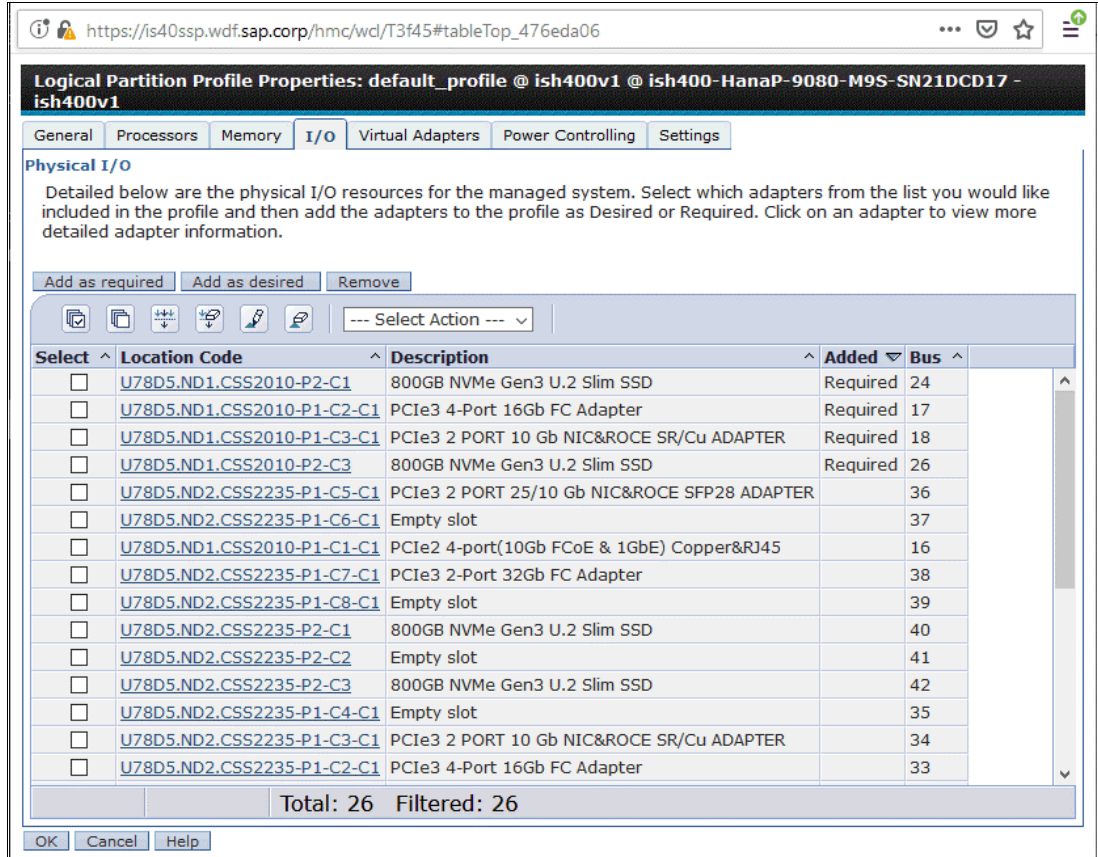

Figure 2-5 LPAR properties on HMC
1. Use a dedicated virtual FC server adapter (slot P1-C2-C1) in the VIOS partition ish400v1, as shown in Figure 2-5. Each client partition accesses physical storage through its virtual FC adapter, which must be configured in the profiles of the VIOS and the client.